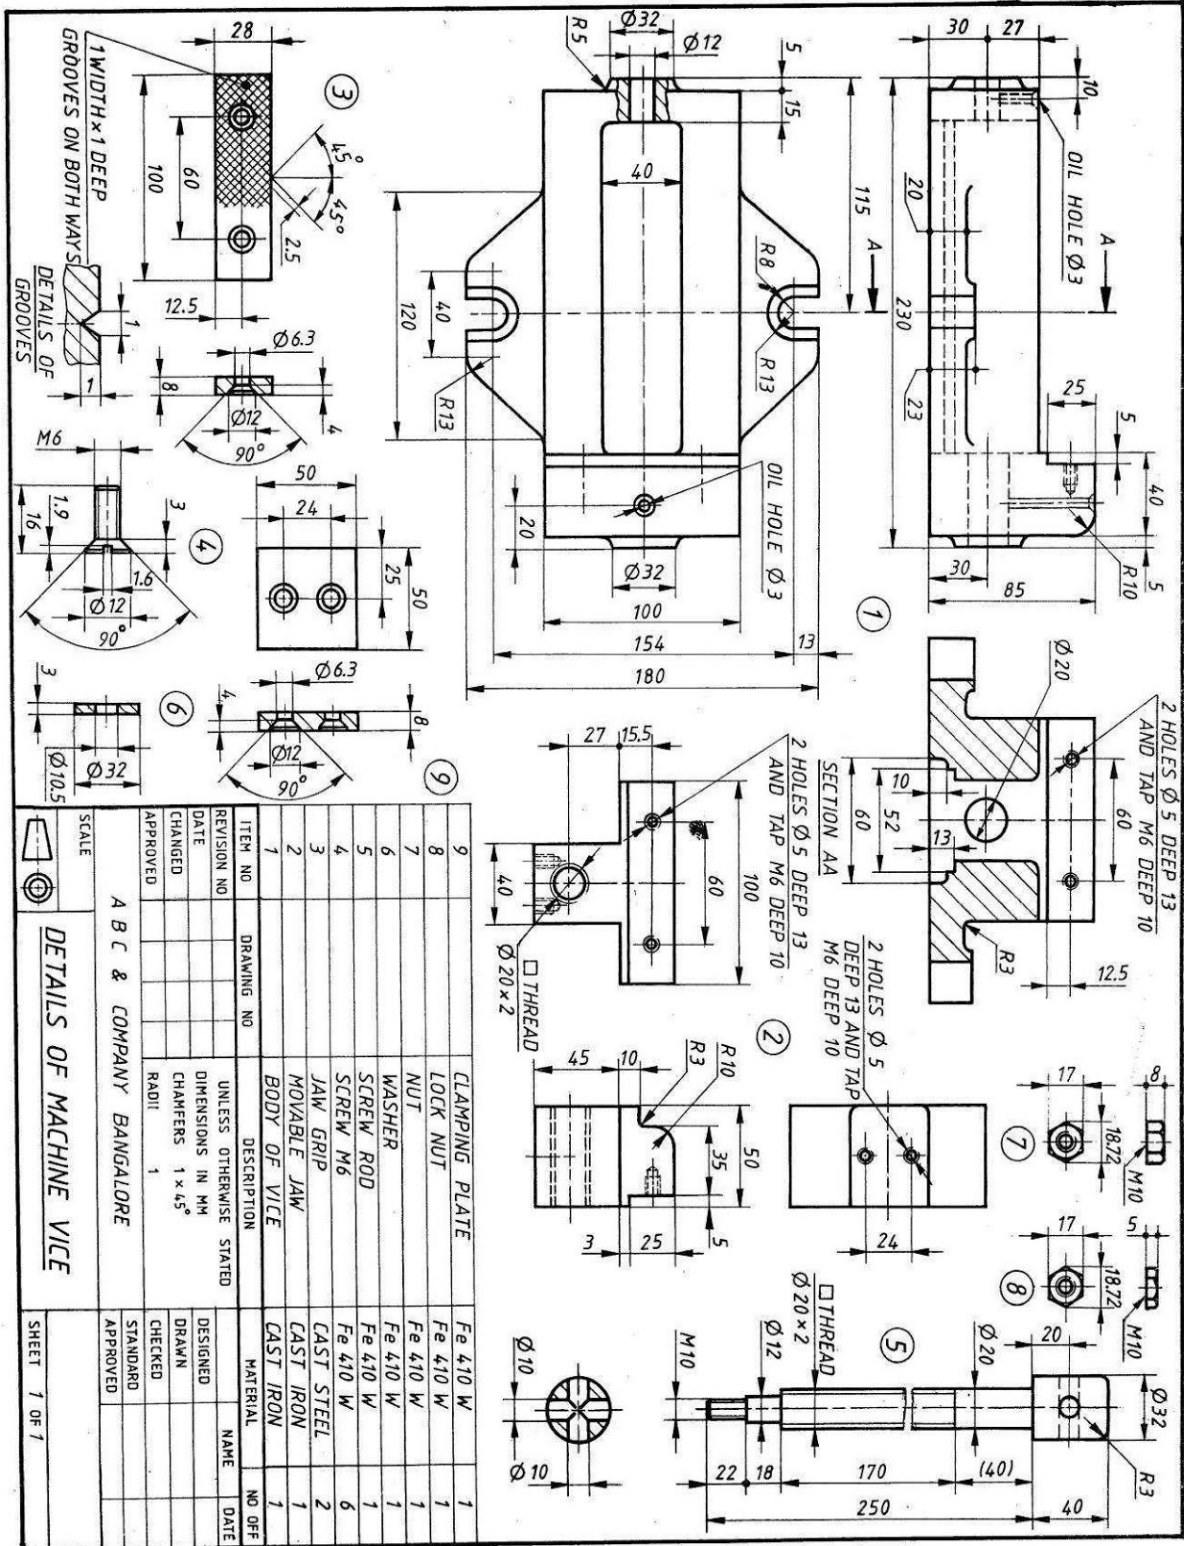

Figure 2 MACHINE VICE'
5. Figure 2 shows the details of 'TAIL STOCK'. Assemble the parts and draw the following views of the assembly.